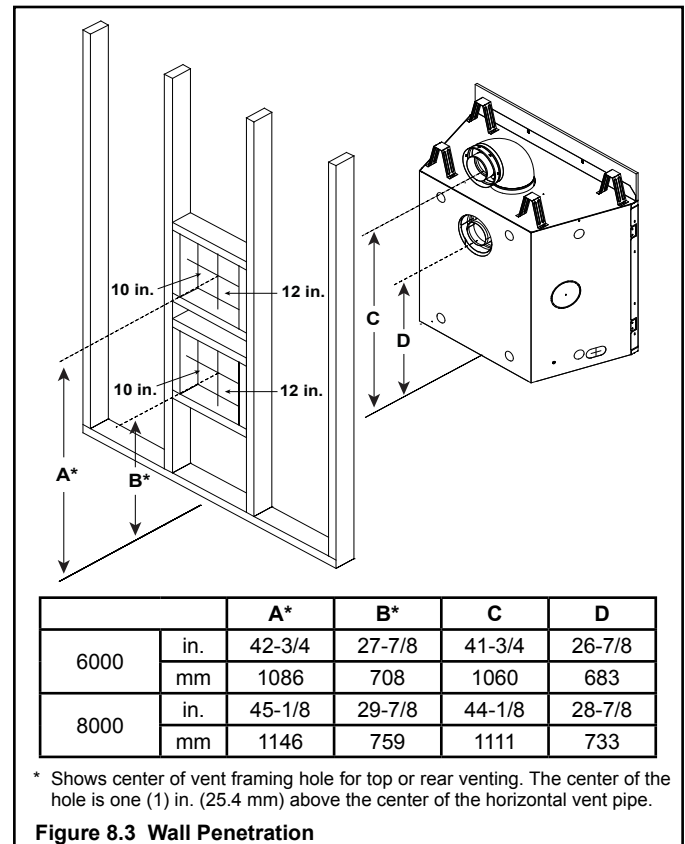

Figure 8.3 Wall Penetration
- **DVP pipe only** - Frame an opening 10 in. by 10 in. (254 mm by 254 mm) whenever the vent penetrates a ceiling/floor (see Figure 8.3).